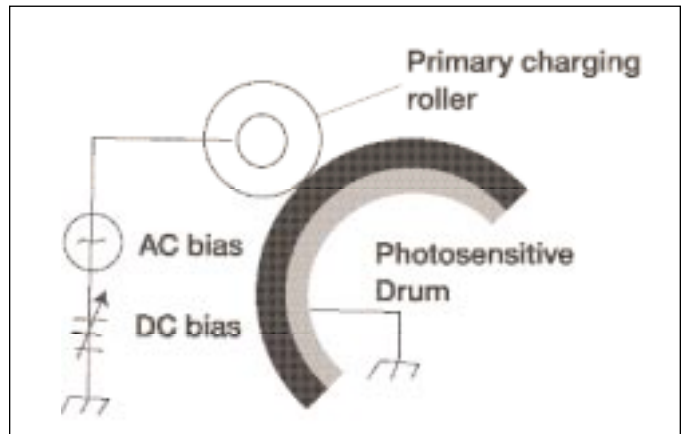

Figure 4
- 2) Conditioning. See Figure 4.